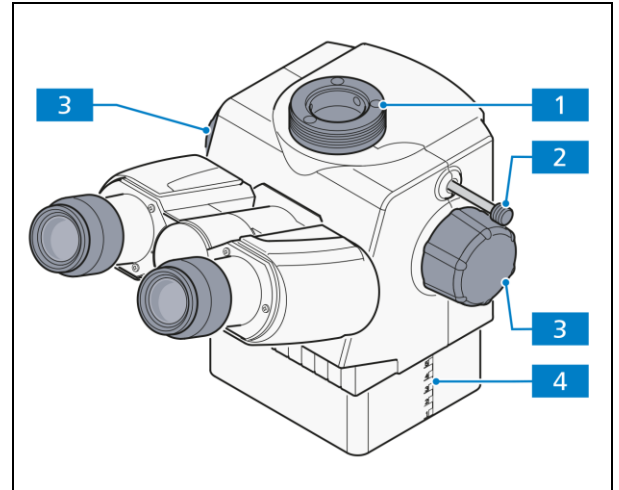

Fig. 2-11 Binocular ergo photo tube 20°/23 with vertical adjustment
The ergo photo tubes are equipped with a camera port (Fig. 2-11/1).
- Continuous vertical adjustment by means of the rotary knobs (Fig. 2-11/3).
- The adjustment range can be read off the vertical scale (Fig. 2-11/4).
- Push-pull rod (Fig. 2-11/2) pushed in: 100% to the eyepieces
- Push-pull rod (Fig. 2-11/2) pulled out: 100% to the camera port